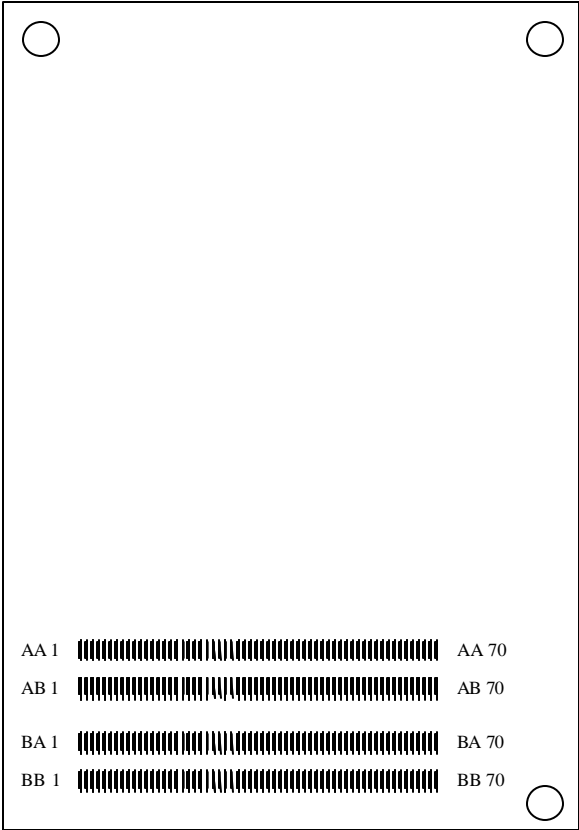

Figure 2. 280-Pin Connector Footprint Pad Numbers, Module Secondary Side
5.1.4 “Height Restrictions”. Figure 2 shows the connector pad assignments for the manufacturer’s system electronics.